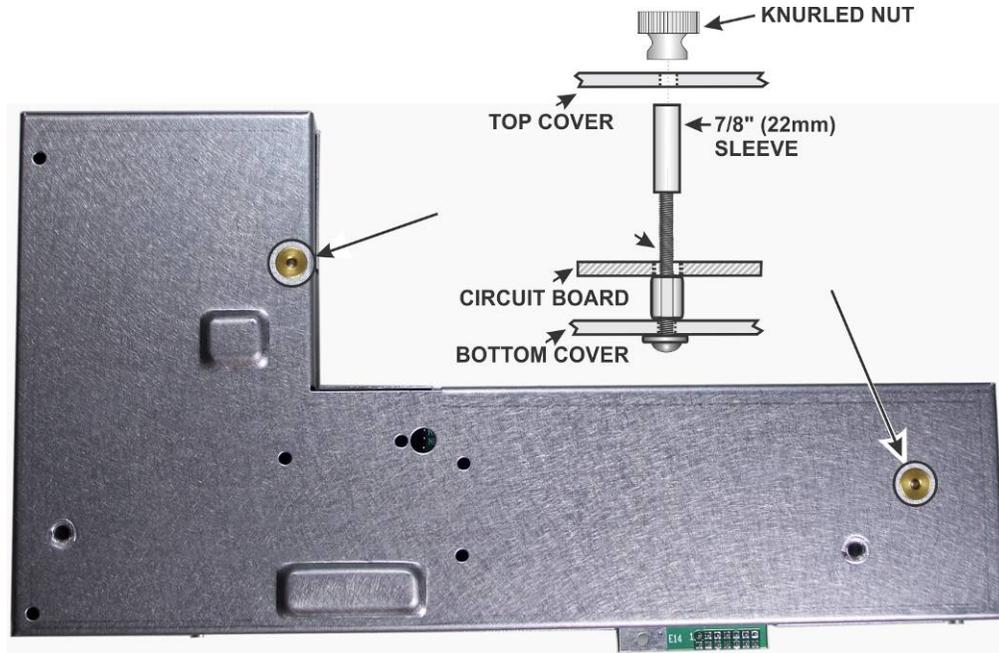

Figure 15. Replacing the Sub Receiver Top Cover.
- Replace the sub receiver enclosure top cover. Be sure to replace the two sleeves over the long screws as shown in Figure 15. The long screws will pass through holes in the top cover. Adjust the position of the cover so the edge of the top fits inside the bottom cover and rests against the sub receiver main board on all sides. Secure the top with knurled nuts tightened only enough to hold the cover in place so it isn't loose.